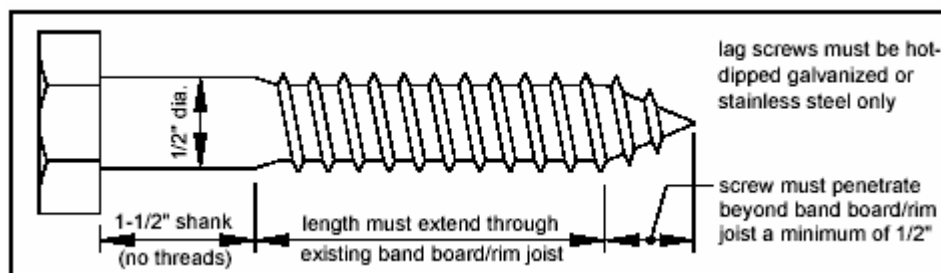

Figure 12 - Lag Screw Requirements
**Lag Screws:** Lag screws shall have a minimum diameter of  $\frac{1}{2}$ " and shall be hot-dipped galvanized or stainless steel. Lag screws may be used only when the field conditions match those shown in Figure 12. **You must verify the existing conditions in the field prior to applying for a building permit and installing lag screws. Compliance with all the requirements herein is critical to ensure the structural stability of your deck.** See Figure 12 for lag screw length and shank requirements. All lag screws shall be installed with washers. Lag screws are those where a pilot hole is drilled into the wood members that are to be connected together and the lag is screwed into the hole, a washer is required on the lag head, but no nut and washer is needed on the screw end.
Decks that are free-standing do not utilize the exterior wall of the existing house to support vertical or lateral loads. Support at or near the house is provided by an additional beam and posts. See Figure 12. Beam size is determined by Table A.